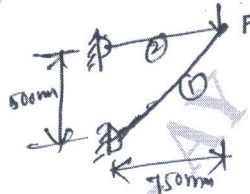

Fig. Q6 (b)
b. A plane truss shown in Fig. Q6 (b), determine nodal displacement. (10 Marks)